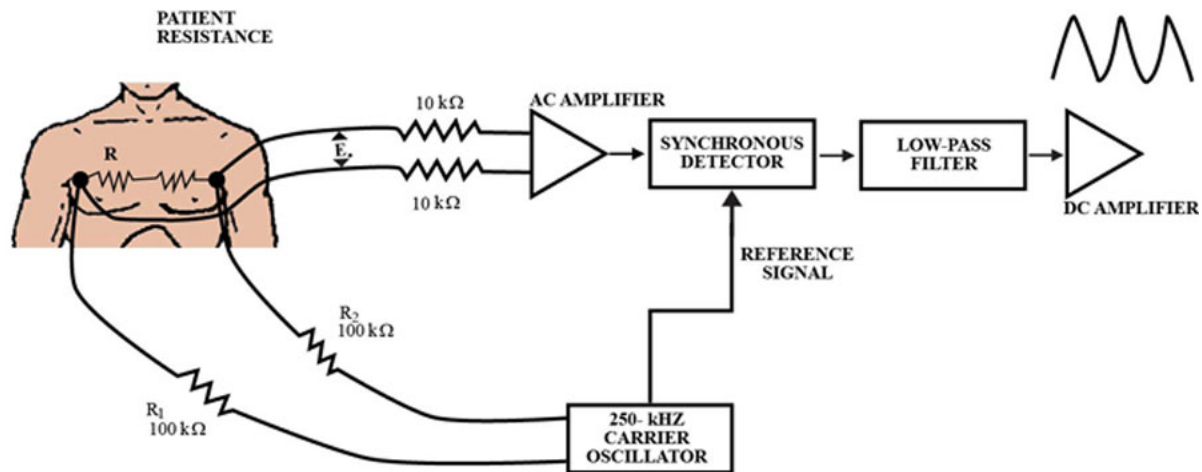

Figure 2-33. Impedance pneumograph.
This device operates on the principle of changing alternating current (AC) impedance across the chest of a patient during respiration. This technique applies to many neonatal respiration monitors and apnea alarms. Surface electrodes, identical to those used in ECG monitoring, apply a low voltage, 50-500 kHz, AC signal to the chest of the patient. Many of these types of monitors are also ECG monitors, sharing a common set of electrodes and a single pair of lead wires. High-value fixed resistors connected in series with each electrode create a constant AC source. The signal voltage applied to a differential AC amplifier is the voltage drop across the resistance representing the patient's chest resistance. Figure 2-33 illustrates a simplified circuit analogy.